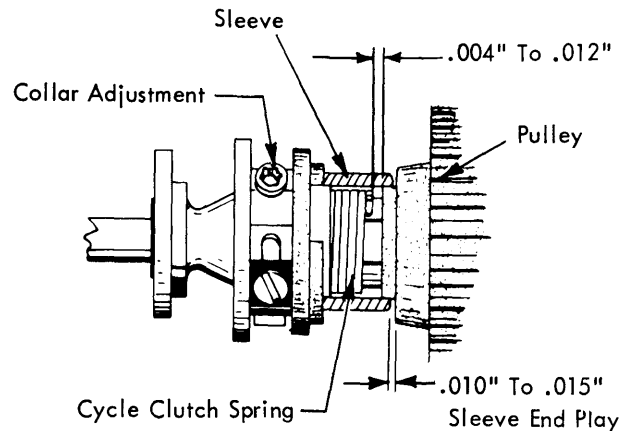

FIGURE 29. Lateral Position of the Cycle Clutch Spring and Collar
a. Lateral position of the spring - Loosen the collar and position the spring left or right on its hubs so that the right hand end of the spring will clear the face of the cycle clutch pulley by .004" to .012" (Fig. 29).